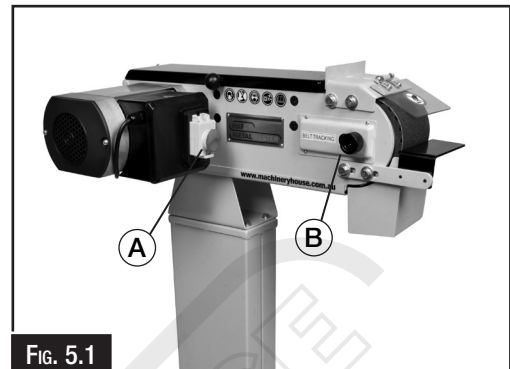

Fig. 5.1
- A. ON/OFF & Emergency Switch:** ON button turns motor ON; OFF button turns motor OFF. Depressing the Emergency Stop button on the cover will turn the motor OFF and prevent motor start until the cover is released and the buttons exposed. (Fig. 5.1)
- B. Belt Tracking Adjustment Knob:** Fine tunes the belt tracking along platen and wheels while the motor is running. (Fig. 5.1)